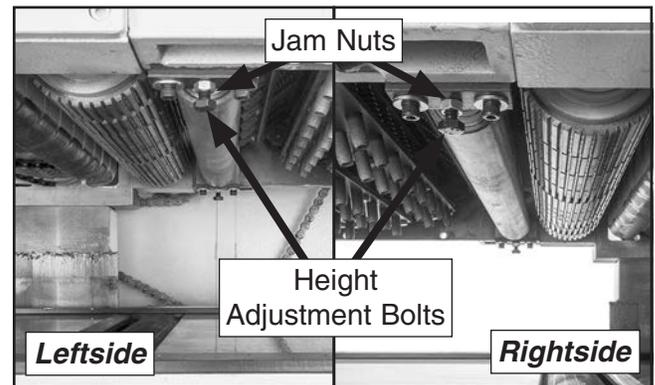

Figure 112. Location of idler roller height adjustment hardware.
5. Loosen idler roller jam nut and height adjustment bolt (see **Figure 112**).